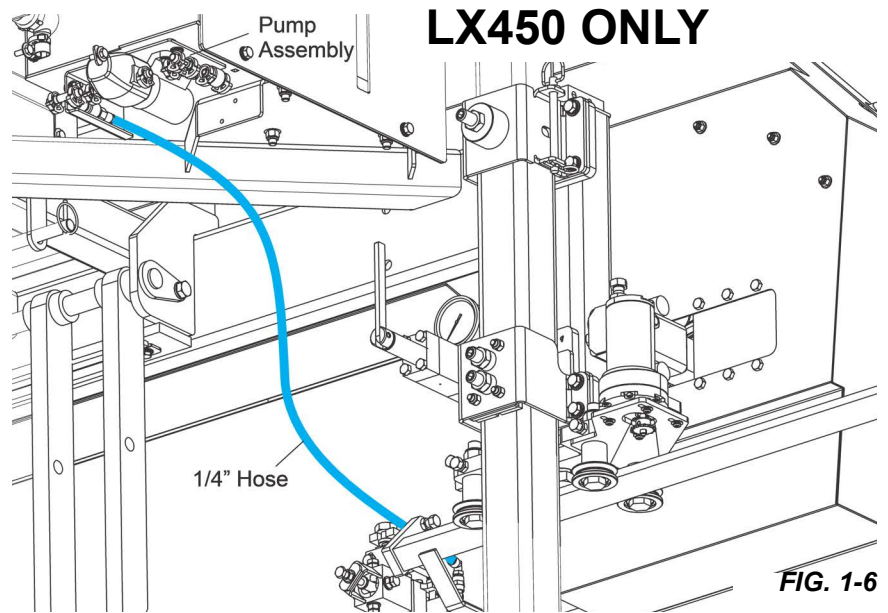

FIG. 1-6
3. Insert one end to the pump valve as shown in FIG. 1-6.